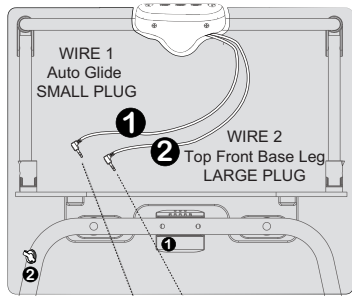

Fig. 1
- Position mobile arm near the rear of the bassinet and align the two holes on the mobile arm joint to the top rail holes (Fig. 1).
- Locate the auto-glide housing plug cord **1** and insert it into the auto-glide connector **1**. (Fig. 1)